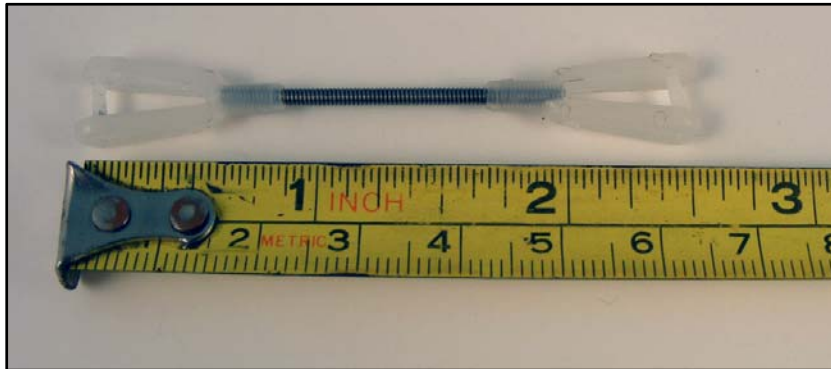

Figure 32
- 17.) Assemble the pivot linkage by screwing in the threaded rod into each pivot clevis as shown in Figure 32, and adjusting it's length to about 2.5" (or about 64mm).